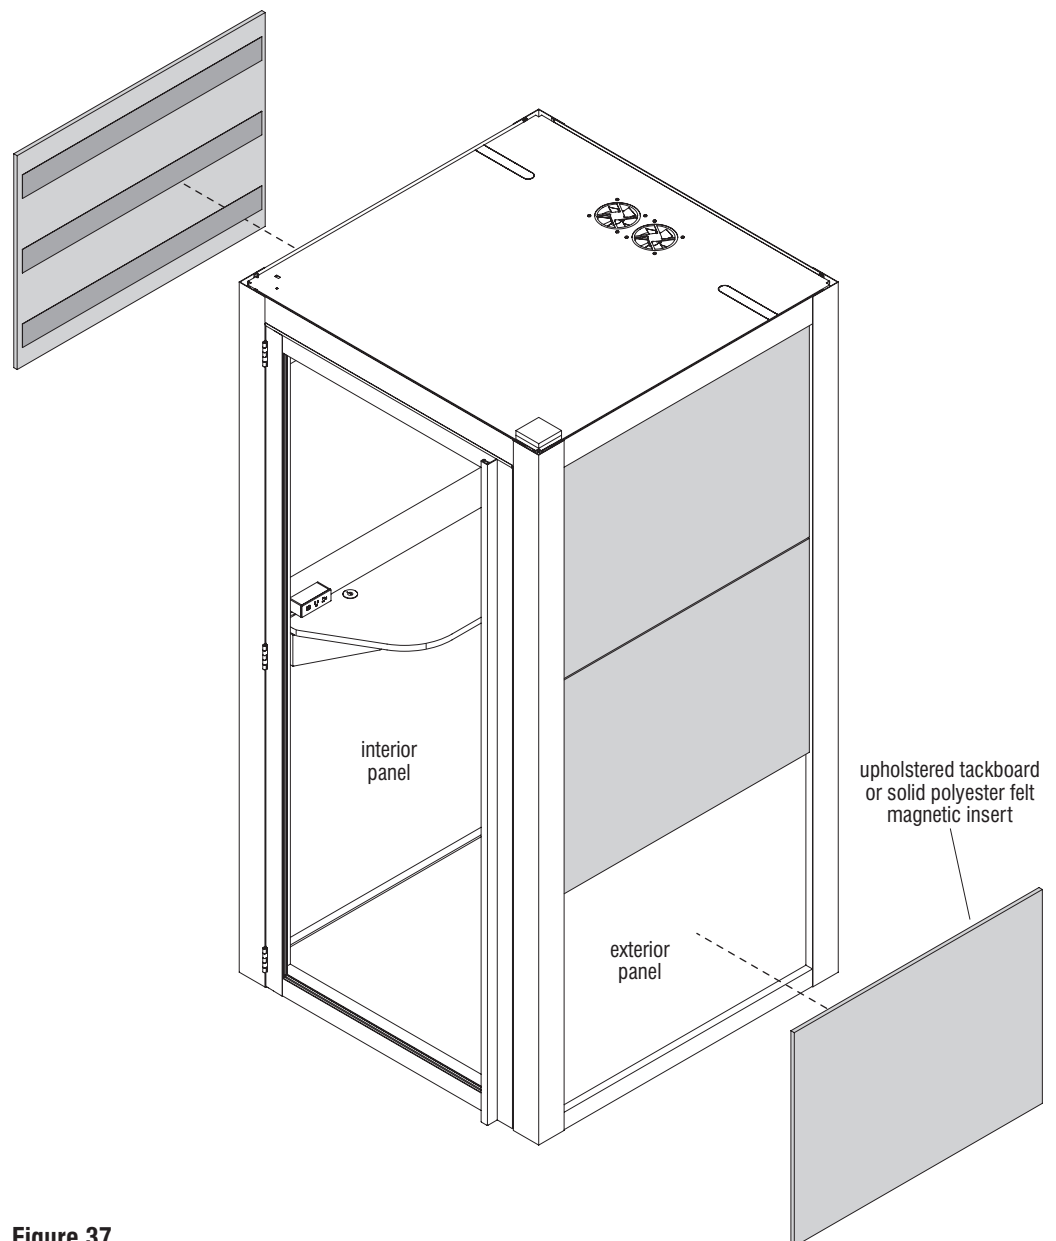

Figure 37
1. To properly mount a magnetic insert to a steel panel, hold the top and bottom of the insert and press it against the interior or exterior steel panel (Figure 37).